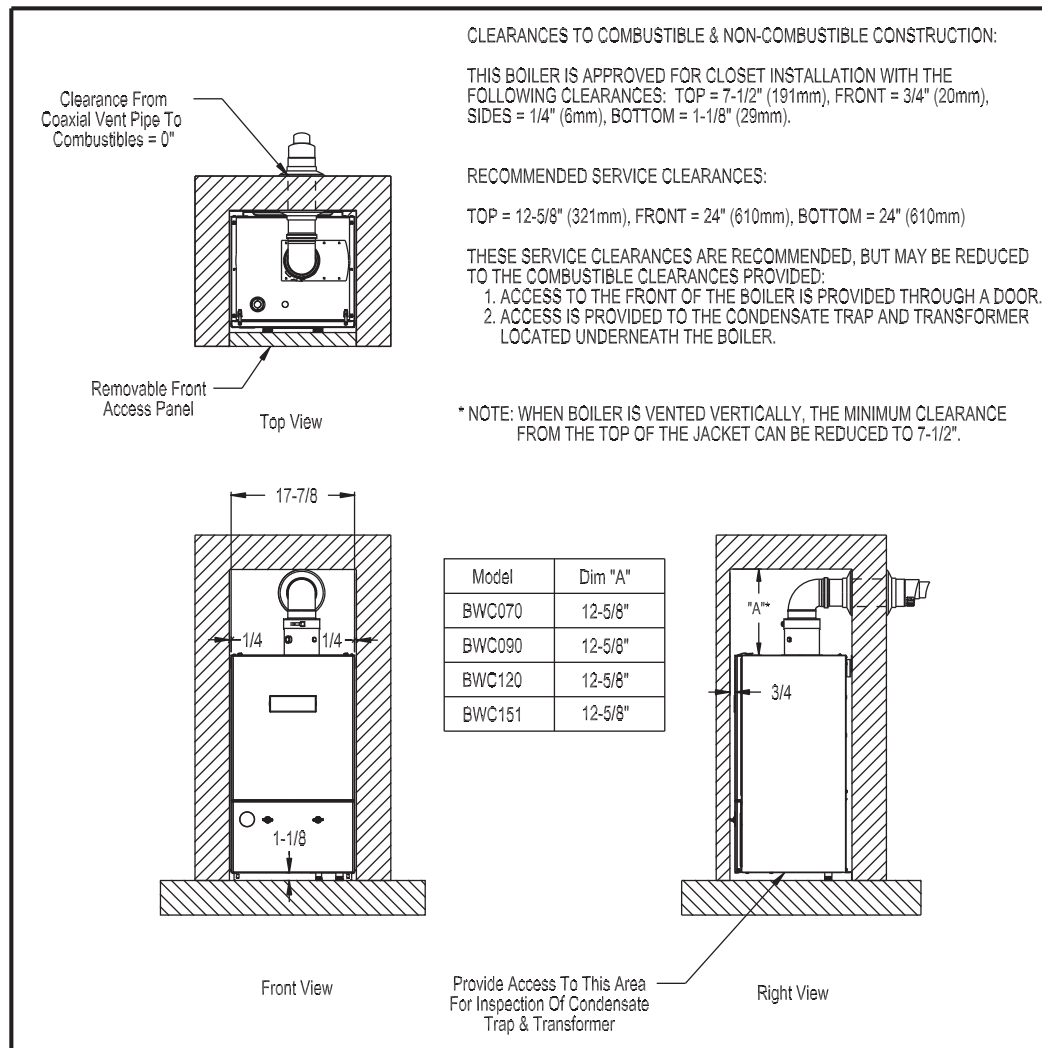

Figure 4.1: Clearances To Combustible Or Non-Combustible Material
- 1) Observe the minimum clearances shown in Figure 4.1. These clearances apply to both combustible and non-combustible materials. Observe the minimum clearances to combustibles for vent pipe shown in Table 4.2.
- 2) Note the recommended service clearances in Figure 4.1. These service clearances are recommended, but may be reduced to the combustible clearances provided: